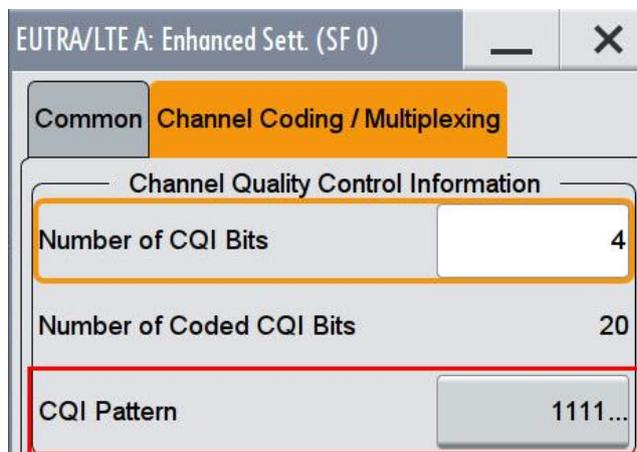

Fig. 3-169: Set four bits CQI pattern to '1111'
12. Set the **Number of CQI bits** to 4 and the **CQI pattern** to 1111 (Fig. 3-169).